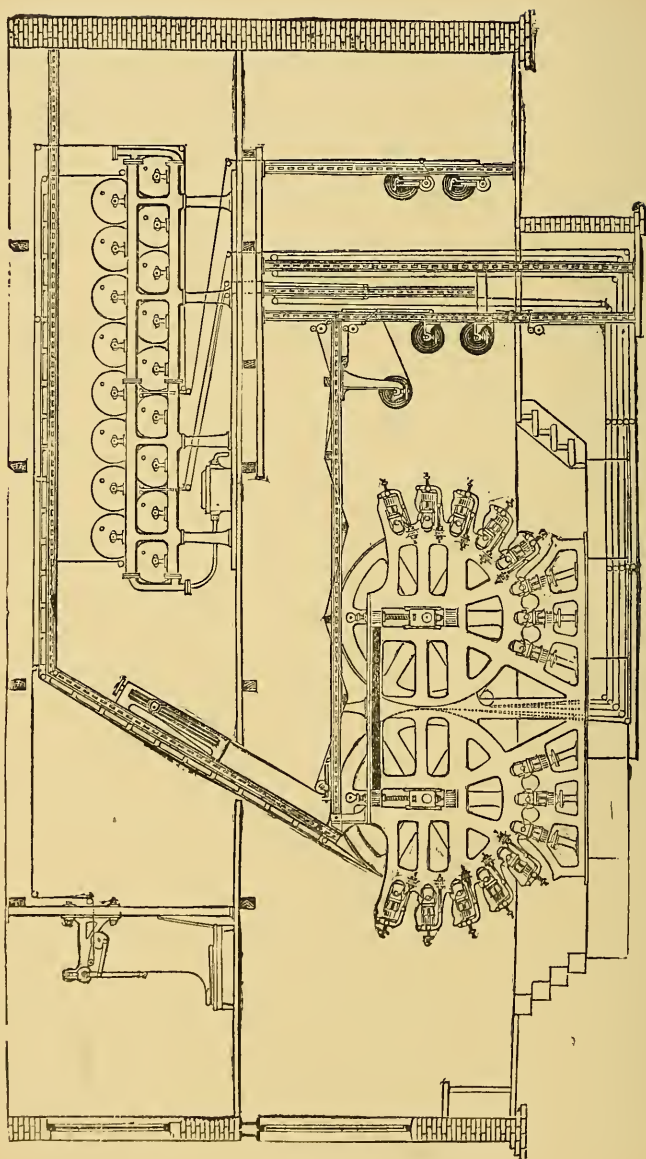

Fig. 54.—Eight-Colour Duplex Calico Printing Machine.
**Calico Printing Machine.**—In order that this may be more fully understood, we give an illustration (Fig. 54) showing two rooms of a calico printing works. In the bottom room is shown a representation of an eight-colour duplex calico printing machine, the particular machine from which the view was taken being the largest one of its class extant, as it is capable of printing from rollers 15 to 48 inches in circumference and 60 inches wide. The engraving does not, of course, do justice to a machine of such magnitude; but as our object is to show the process rather than to describe any particular machine, it will be sufficient for our purpose.
We have alluded to the method employed in printing, and it only remains to state that after the fabric has left the printing machine it is carried to the drying cylinders and steam chests on the second floor, as shown in Fig. 54.